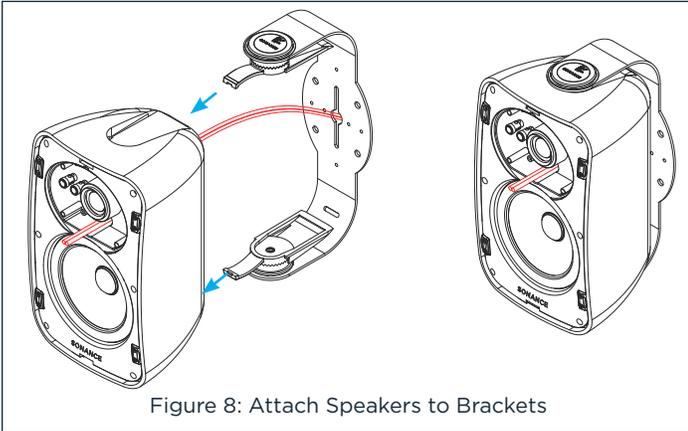

Figure 8: Attach Speakers to Brackets
Pull enough wire through the front of the speaker to allow connection to the terminals (see Figure 8).
- Insert the wires into the connector holes (see Figure 8).